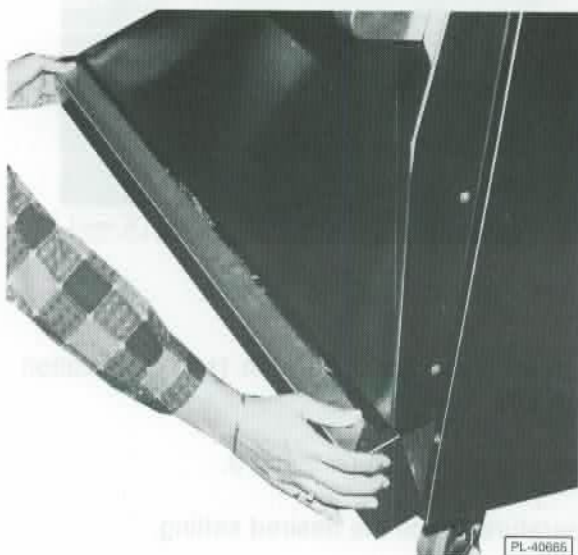

Fig. 13
1. Open kick panel and lift up the pilot lighting hole cover (Fig. 13).
1. Open the kick panel and lift up the pilot lighting hole cover (see Fig. 13).